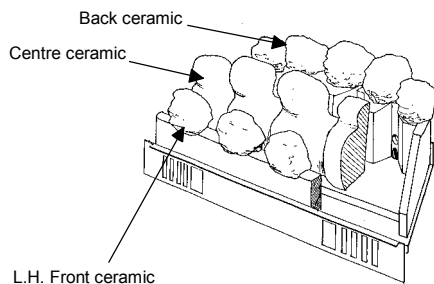

Fig. 5 Assembling the ceramic blocks
2. The ceramic components are fragile and should be handled with care. Refer to Figs. 5 and 6 for positioning of ceramic fibre blocks and coals.